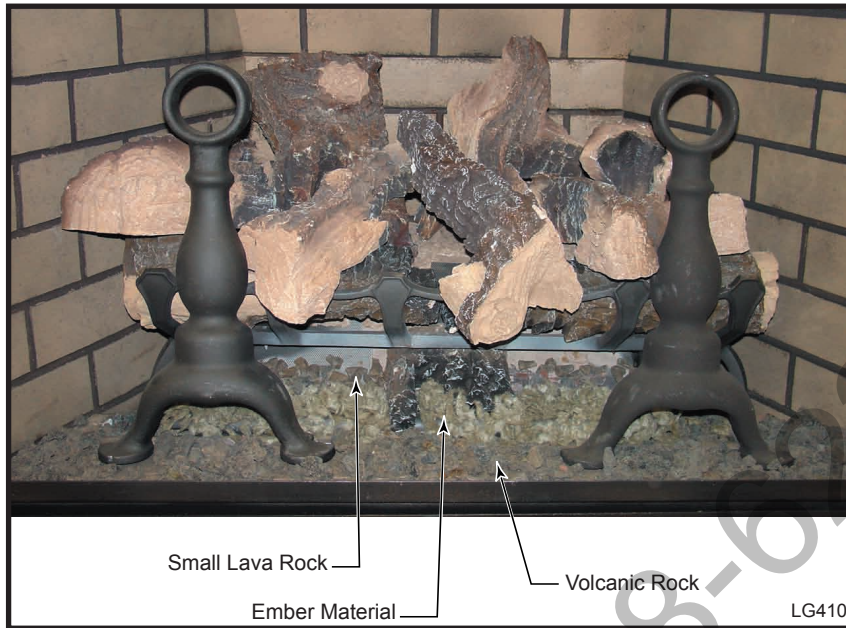

Fig. 48 DVT38 logset complete.
3. **Position the Andirons.** Set the andirons in place by hooking the tabs on the back of the andiron over the outermost web of the fettle. (Figs. 48 & 49)
4. **Place the Volcanic Rock.** Place the volcanic rocks over the hearth refractories in front of the burner tube and around the burner assembly as desired. (Figs. 48 & 49)
5. **Place the Small Lava Rock.** Place the small lava rock approximately 1½" (38 mm) wide behind the lip mounted to the burner housing. Place ember material lightly directly behind the lava rock and the overlay. (Figs. 48 & 49)
6. **Place the Ember Material.** Place the ember material in front and around the burner tube and behind the burner tube in front of the burner housing. Build up the ember material lightly over the burner tube into the burner housing to cover up the burner tube and the lip mounted to the front of the burner housing. (Figs. 48 & 49) **NOTE: Placing platinum ember material is**
NOTE: Refer to Figures 48 and 49 for complete logset.